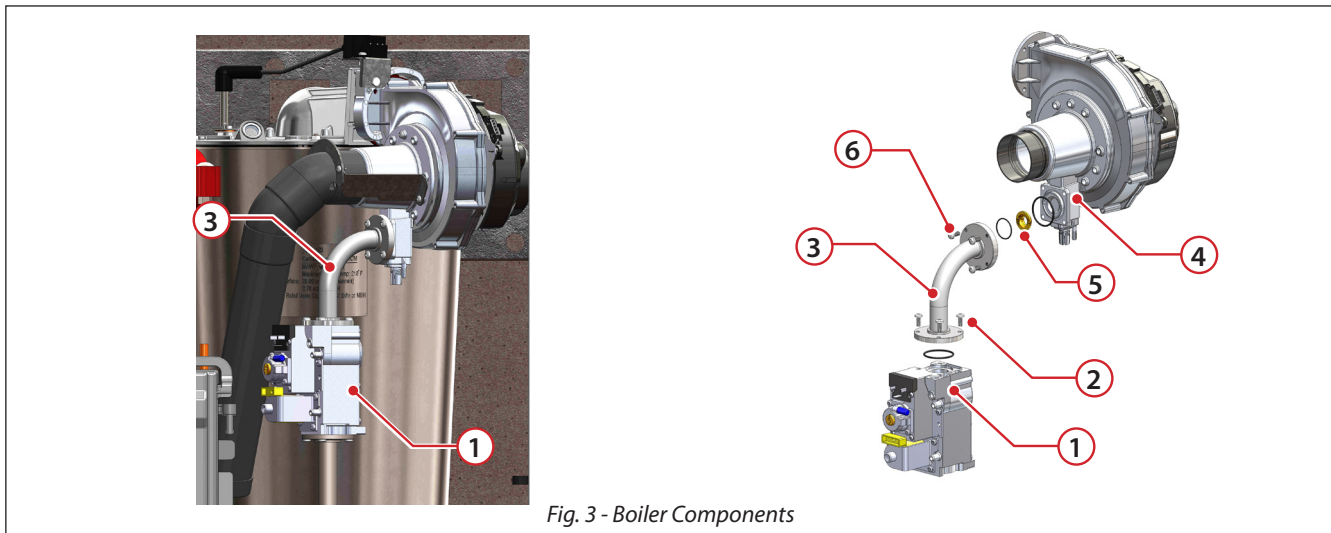

Fig. 3 - Boiler Components
**DO NOT** use this manual for units that do not match the configuration shown on *Fig. 3 on page 4*